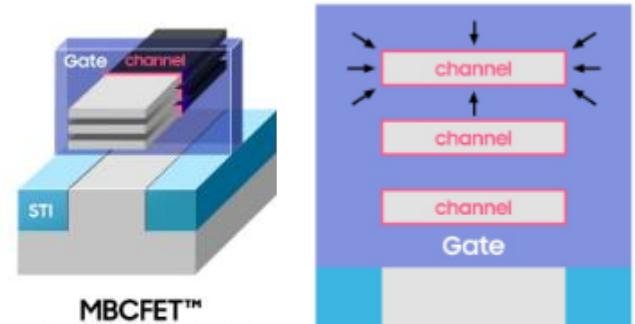

Fig.1
- MBCFET (Multi Bridge Channel) Gate-All-Around (GAA) from Samsung Foundry (Fig.1). MBCFET can support multiple nanosheet width. Here we are presenting GAA device with four types of nanosheet (**NS1/NS2/NS3/NS4**)